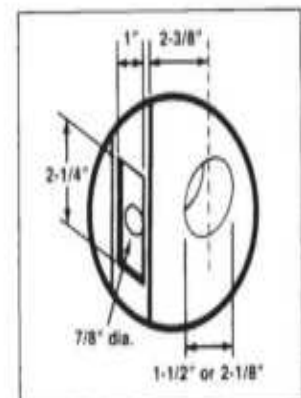

**Figure 7.21** Schlage's B Series deadbolt lock. (*Schlage Lock Company* )
**Schlage Lock Company.** Schlage's B Series deadbolt locks provide primary or auxiliary security locking for both commercial and residential applications. It includes the standard duty B100 Series for residential structures (Fig. 7.21 ), the heavy-duty B400 Series for commercial requirements, and the most secure B500 Series for maximum performance. All products in this series feature a full 1-inch throw deadbolt with Schlage's exclusive wood frame reinforcer to deter "kick-in" attack.